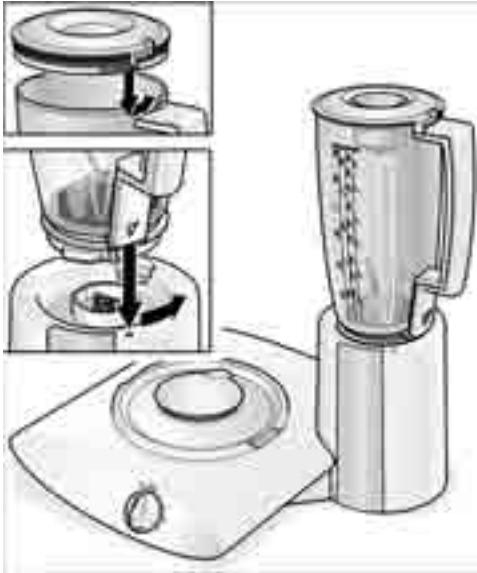

Figure 13
4. Place the blender with cover on the high-speed drive of the power unit. Note the mark on the appliance and on the blender. Turn the blender counterclockwise with a slight downward pressure until the jar is firmly seated, see figure 13.